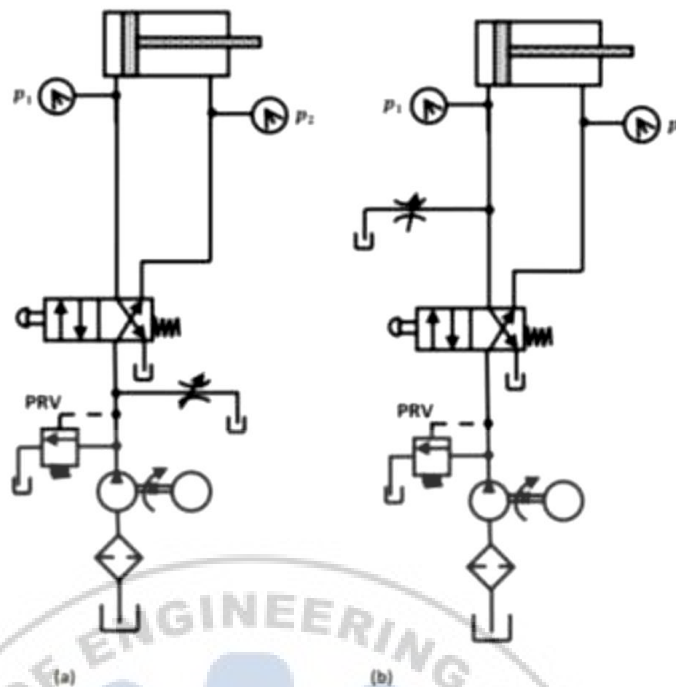

Figure 1.10 Bleed-off circuits: (a) Bleed-off for both directions and (b) bleed-off for inlet to the cylinder or motor.
Three-way valves either block or allow flow from an inlet to an outlet. They also allow the outlet to flow back to the tank when the pump is blocked, while a two-way valve does not. A three-way valve has three ports, namely, a pressure inlet (P), an outlet to the system (A) and a return to the tank (T). Figure 1.10 shows the operation of a 3/2-way valve normally closed. In its normal position, the valve is held in position by a spring as shown in Fig. 1.10(a).
In the normal position, the pressure port P is blocked and outlet A is connected to the tank. In the actuated position shown in Fig. 1.10(b), the pressure port is connected to the tank and the tank port is blocked.
Figure 1.10 3/2-way DCV (normally closed). (a) Ports A and T are connected when force is not applied (valve unactuated). (b) Ports A and P are connected when force is applied (valve actuated).
Compared to meter-in and meter-out circuits, a bleed-off circuit is less commonly used. Figure 1.10 shows a bleed-off circuit with extend stroke control. In this type of flow control, an additional line is run through a flow-control valve back to the tank. To slow down the actuator, some of the flow is bleed off through the flow-control valve into the tank before it reaches the actuator. This reduces the flow into the actuator, thereby reducing the speed of the extend stroke. The main difference between a bleed-off circuit and a meter-in/meter-out circuit is that in a bleed-off circuit, opening the flow control valve decreases the speed of the actuator, whereas in the case of a meter-in/meter-out circuit, it is the other way around.